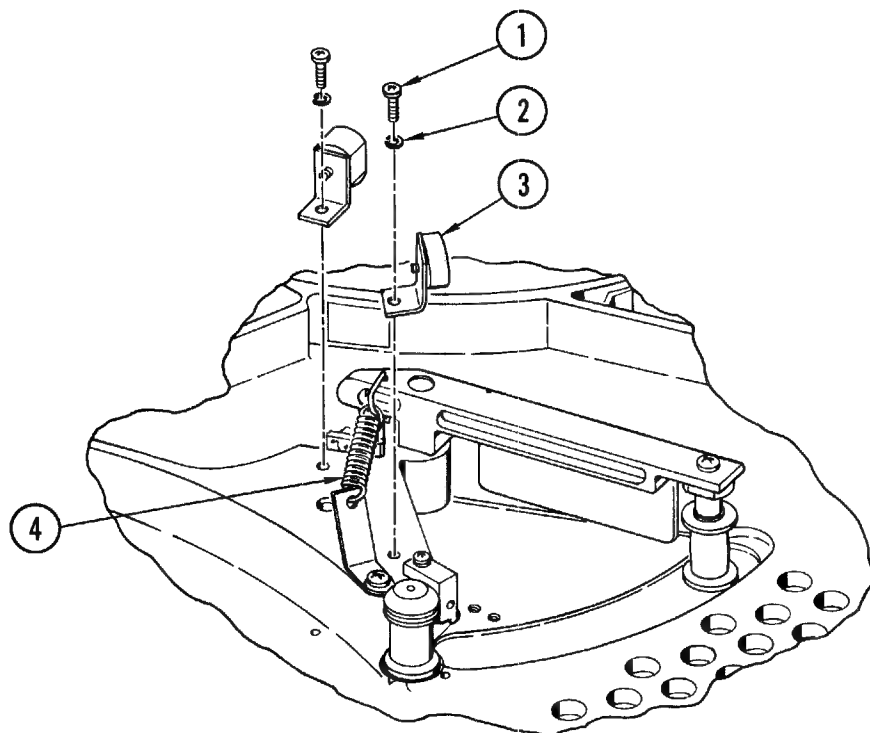

Figure 4-20. Compliance Arm Bumper Assembly
**4-34. Removal and Replacement (Figure 4-20).** With the transport in operator maintenance position (paragraph 4-2), proceed as follows:
- a. Remove screw (1, Figure 4-20), lockwasher (2), and bumper assembly (3).
- b. Reinstall in reverse order of removal, and adjust to contact compliance arm squarely. Ensure spring (4) does not touch bumper in the compliance arms full arc of travel. Reposition bumper to clear spring if required.